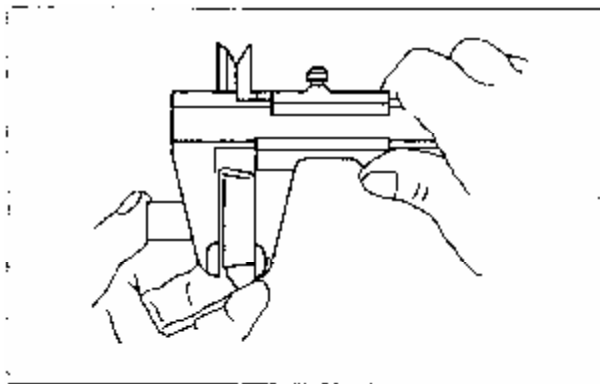

Figure 3-42 Check the Thickness of Chain Tensioner Rubber Damper
3.4.7 Use a caliper to check the thickness of rubber damper. The damper is on the head of chain tensioner plug (see Figure 3-42). The nominal thickness is 15.0mm, and minimum thickness is 12.5mm.